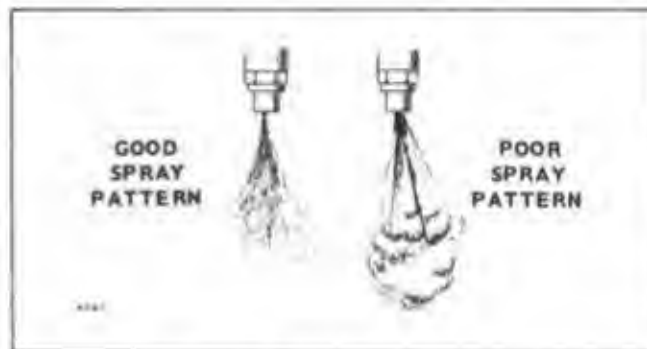

Figure 24. Nozzle Spray Pattern
**Inspection:** To inspect the nozzle spray pattern, remove the nozzle from the cylinder head. Crank the engine, let the nozzle spray into the air and watch the pattern. The spray should be cone shaped, with a solid-appearing center surrounded by cloudlike fog in which the spray is evenly atomized (Fig. 24). An apparent chattering of the nozzle is normal.
Opening pressure, leakage and spray pattern can be checked using this tester. If, when checking nozzles, any of the above malfunctions appear (except opening pressure), the nozzle valve and seat can be inspected with a magnifying glass for erosion, scoring, etc. If these conditions are present, and cleaning with solvent does not correct them, a new nozzle tip will be required. The opening pressure can then be set and spray pattern checked (See Fig. 24).